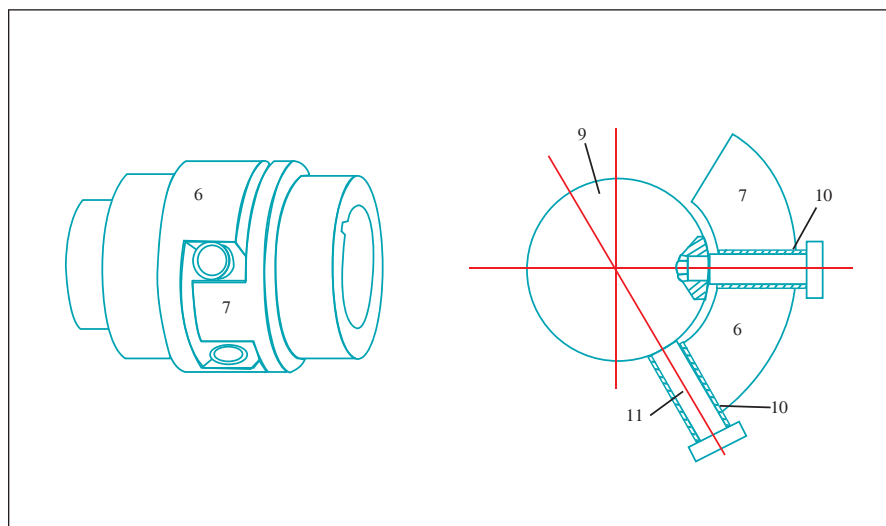

Figure 8—A modified spider coupling.
six-legged spider is shown in Figure 8 (Ref. 4). In this design the elastomeric spider of the conventional jaw coupling shown in Figure 10a is replaced with a rigid spider (9, 11) carrying tubular sleeves or coil springs (10) supported by spider pins (11) and serving as flexible elements radially compressed between cams (6 and 7) protruding from the respective hubs. If the number of spider legs is four, at 90° to each other, then the hubs have relative angular mobility, and the coupling becomes a u-joint with angular mobility greater than 10° , but with much higher rated torque than an equivalent size Kudriavetz coupling.